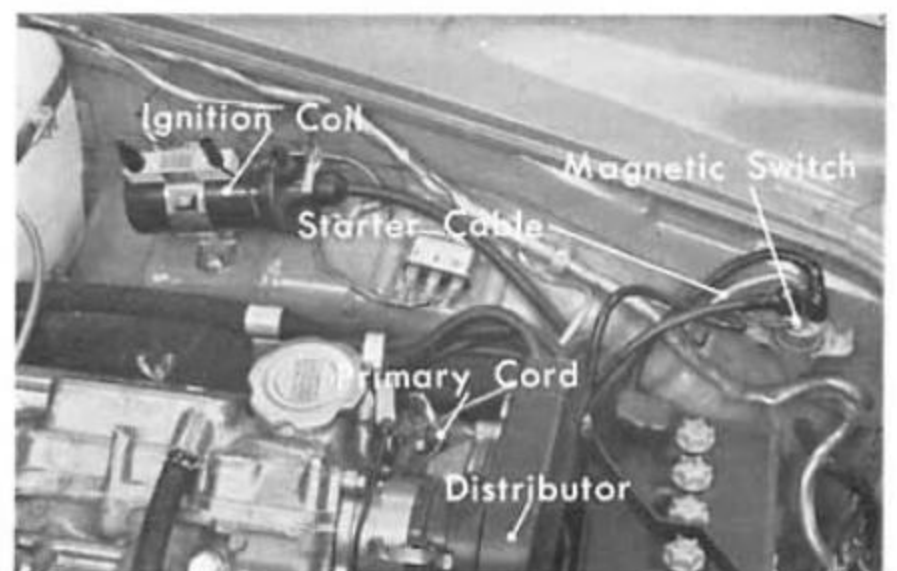

Fig. 17F-3
8. Remove both the brake and clutch master cylinder assemblies (Fig. 17F-4).